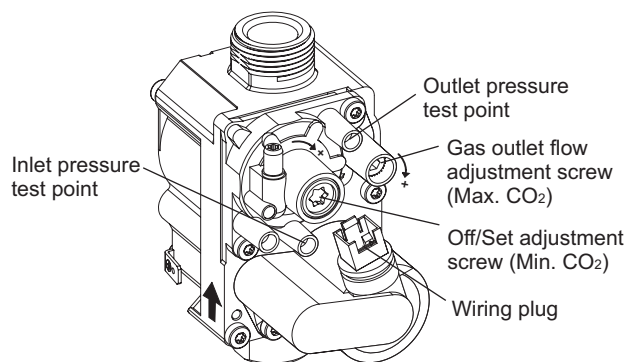
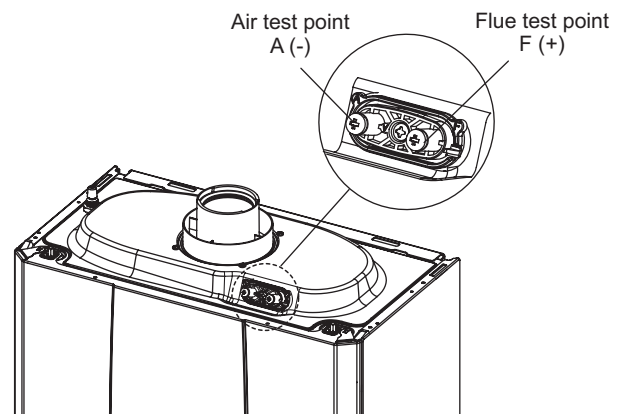

Fig. 6.2
Fig. 6.3
The air gas ratio of the boiler has been factory-set and should not require adjusting during commissioning. If adjustment is recommended or required the engineer must be competent to carry out this work. See Fig. 6.3 for analyser test point.
Refer to Section 6.6 and enter the chimney sweep mode (with no DHW demand) use the DHW down button to set the output to minimum (0%). Insert the analyser probe into the flue test point (Fig. 6.3) and check that the CO2 value is as specified in Section 3.1, otherwise adjust the screw (Fig. 6.2). To increase the CO2 value, turn the adjustment screw in a clockwise direction and vice versa to decrease.
When you finish the minimum CO2 adjustment, while maintaining the chimney sweep function active, use the DHW up button to set the output to maximum (99%). Insert the analyser probe into the flue test point (Fig. 6.3) and check that the CO2 value is as specified in Section 3.1, otherwise adjust the screw (Fig. 6.2). To increase the CO2 value, turn the adjustment screw (Fig. 6.2) in a clockwise direction and vice versa to decrease it.
Connect the flue gas analyser to the flue gas sampling point as shown in Fig. 6.3.
**Notes: 1.** Prior to servicing, it is recommended that a flue gas analyser is used to measure the performance of the boiler (refer to Fig. 6.3 for the position of the flue sampling point). Refer to Section 6.6 Checking combustion. If the CO/CO2 ratio measured is greater than 0.004 **or** when other checks or comments from the customer have indicated that there may be problems, check the following: